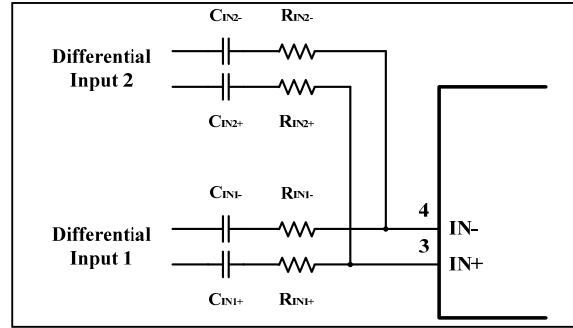

Figure 14 Application Circuit with Summing Two Differential Inputs
Two extra resistors are needed for summing differential signals (Figure 14). The gain for each input source can be set independently by Equations (4) and (5).